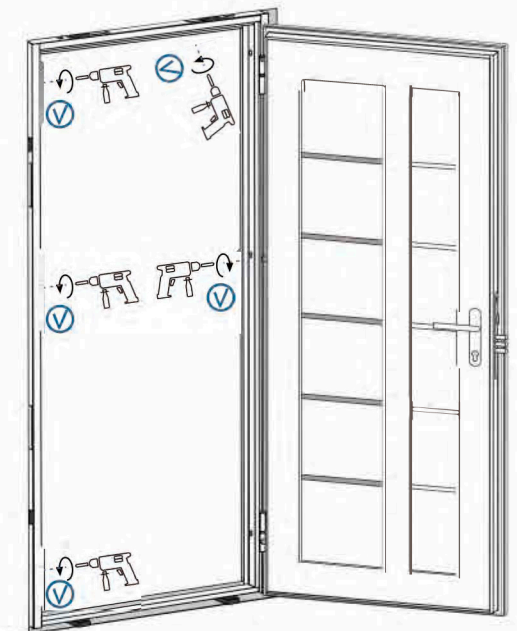

Figure 20
3.17. Tighten all anchors (figure 20).